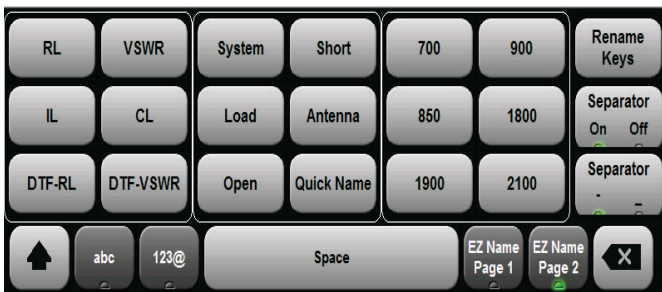
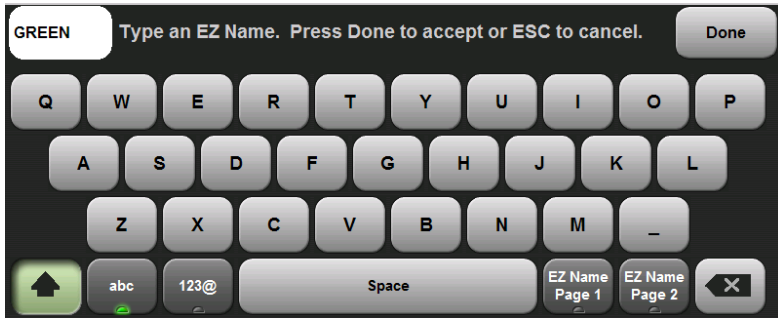

Figure 10-6. EZ Name Matrix
Figure 10-7. Renaming a Matrix Key
Using the touchscreen, in the File Mgmt menu, press Rename. Then press either EZ Name Page 1 or EZ Name Page 2 (shown in Figure 10-6 on page 10-11) to open the EZ Name matrix keyboards.
The EZ Name Separator Keys shown in Figure 10-6 can be used to automatically insert a separator each time a Matrix button is pressed.
1. Press the Rename Keys button shown in Figure 10-6 (upper-right button in either EZ Name matrix). Note that the name of the key changes to **Cancel**. Choose (press) the matrix button that you want to rename. The current name, such as **Color Code**, is displayed in the upper-left corner above the letter keys (see Figure 10-7). Type the desired name, which appears in the upper-left corner as you type. Then press **Done**. In Figure 10-8 the upper-right button (**Color Code**) was selected and renamed **GREEN**. See the original names in Figure 10-6.